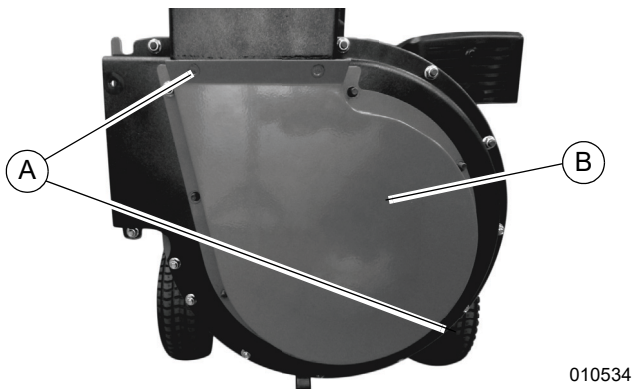

Figure 2-4. Removing Shipping Nuts
1. See Figure 2-4. Remove the two shipping nuts (A) securing hammermill housing (B) to the power unit using a 1/2" wrench. Discard shipping nuts.